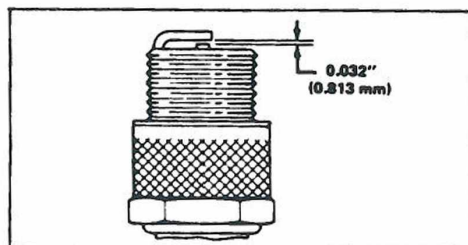

Figure 15
3. Set air gap at 0.032" (0.813 mm) (Fig. 15). Install correctly gapped spark plug and gasket seal. Tighten plug firmly to 15 ft-lb (20.4 N·m).